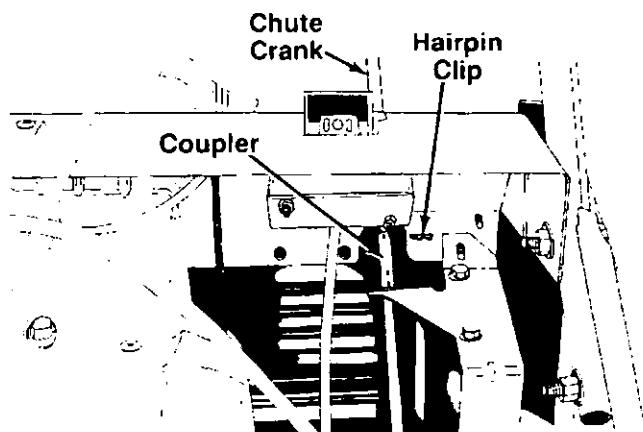

FIGURE 5.—Model 310193 Only
4. Insert the chute crank into the hole provided in the snow thrower cover. Place the end of the crank into the coupler located inside the snow thrower. See figure 5.